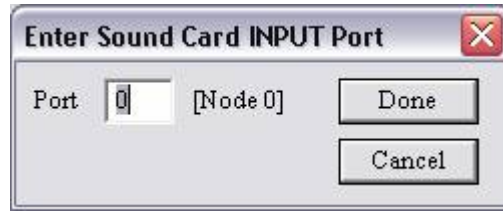

Figure 71. Input Node Dialog.
- Input node: Right clicking on the input node opens the dialog box shown in Figure 71. Specify the input channel of the sound card to which the input for the chosen speaker is to be connected. Multiple speakers can be connected to the same sound card input, however in doing so a warning will pop up. If multiple speakers are to be connected to the same node click OK to close the warning and continue. If the specification was in error, after clicking OK reopen the input node dialog and correct the error.